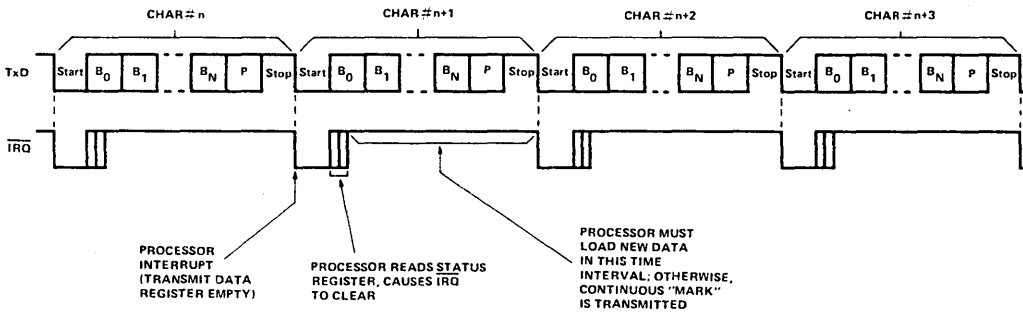

Figure 4-1. CONTINUOUS DATA TRANSMIT
4.1.1 Continuous Data Transmit (Figure 4-1)